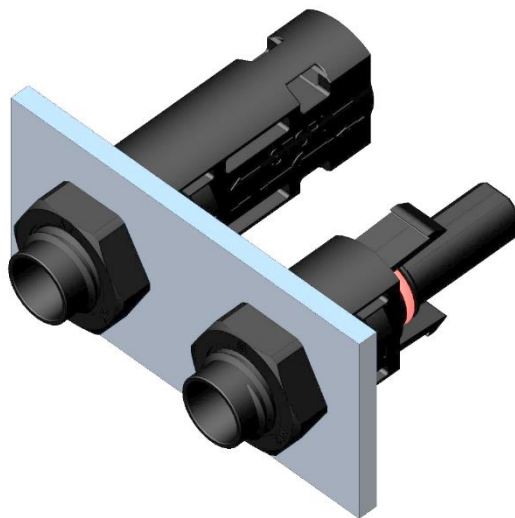

Figure 17
- ✧ 安装公/母面板连接器时，推荐用 1.4 N.m 的扭矩锁紧螺母。具体情况，需要由终端用户根据不同的面板验证合适的扭矩 (如图 17)。
When installing the male or female panel connector, it is recommended to use 1.4 N.m torque lock nut. The appropriate torque has to be verified in the end use according to the respective housing (Fig.17).